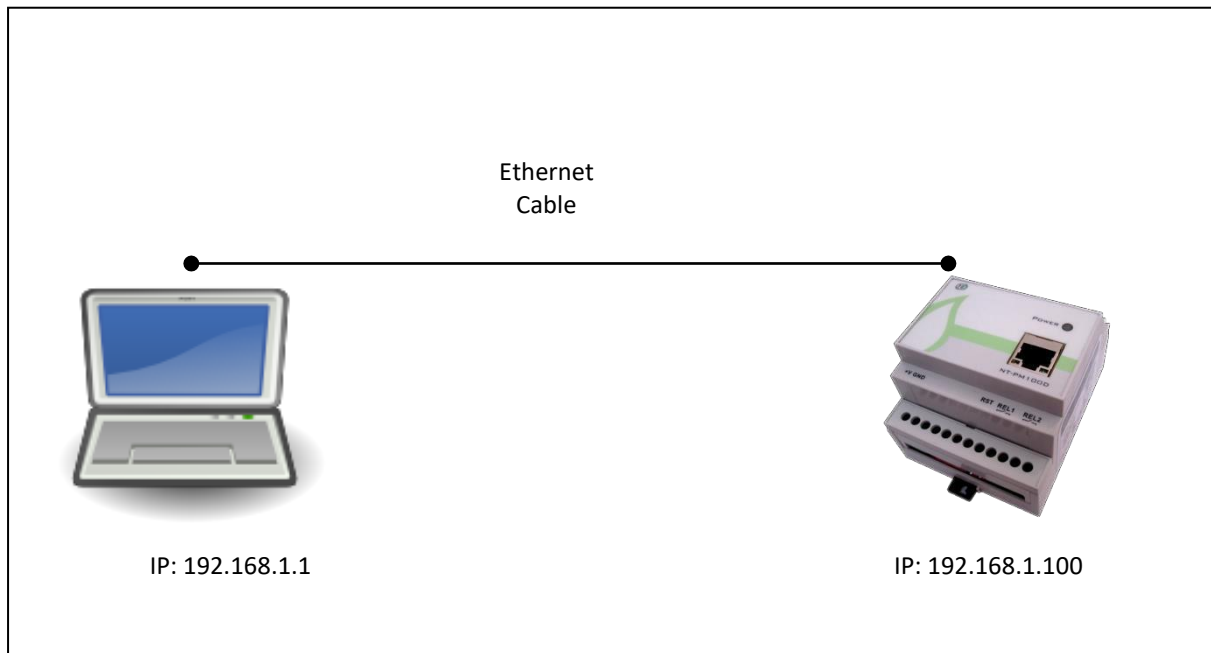

Figure 3: Default Ethernet network configuration
1. Connect one end of the Ethernet cable to the Ethernet interface of the NTPM device, and the other end of the cable to the PC Ethernet interface (Figure3).